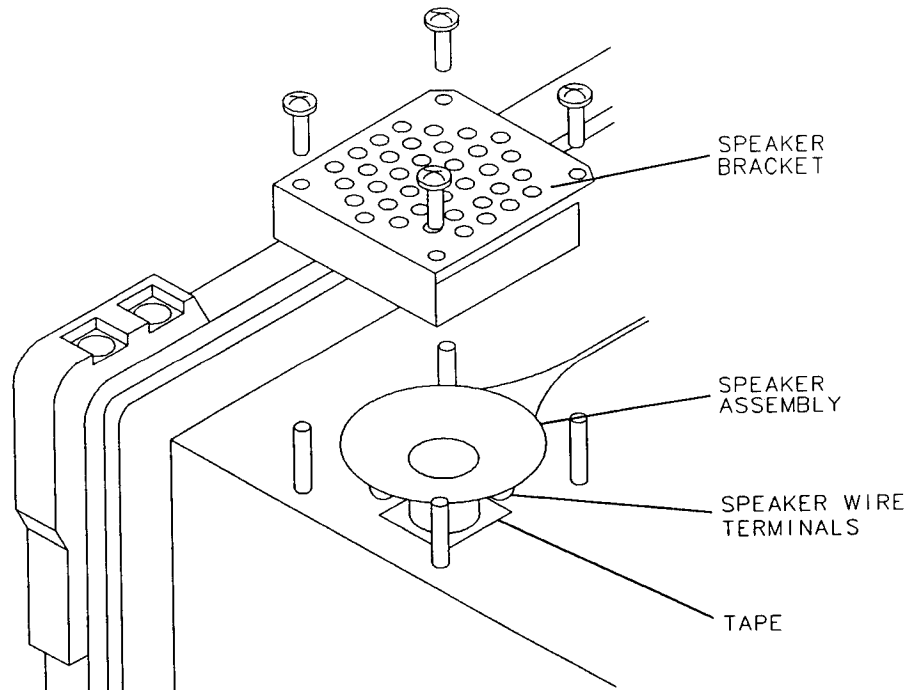

Figure 3. Attaching the Speaker Assembly and Bracket
3. Place the speaker assembly on top of the tape with the speaker wire terminals facing the side of the analyzer and the speaker wires pointing toward the center of the analyzer. See Figure 3.